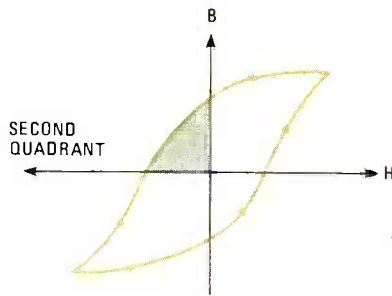
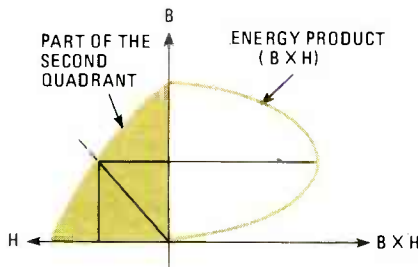

FIG. 2—THE DEMAGNETIZATION CURVE corresponds to the second quadrant of the hysteresis curve.
FIG. 3—THE ENERGY PRODUCT is the product of flux density and magnetizing force, and is very different for different materials.
In the past the most popular permanent magnets used in drivers were Ferrite and Alnico. Recently, however, rare-earth magnets using a samarium-cobalt alloy have been developed. Let us examine three types of magnetic material. The most important characteristic to examine is the so-called demagnetization curve. If we examine a typical hysteresis curve for a magnetic circuit, like the one shown in Fig. 2, the demagnetization curve corresponds to the second quadrant of the hysteresis curve, as shown in Fig. 3. The energy product for a specific magnetic material is the product of flux density (B) and magnetizing force (H), and is very different for different magnetic materials.
Figure 2 shows the range of response capabilities measured in tests of eighteen different brands of tape. Variations in bass response were minimal, with the best tapes having good response down to 47 Hz and the poorest only somewhat worse, having their -3dB roll-off points at 49 Hz. At the high end of the audio spectrum, however, variations among the different tapes were far
FIG. 2—VARIATIONS in audio frequency-response among the various videotapes tested will not be as noticeable as variations in video frequency-response to the average user.